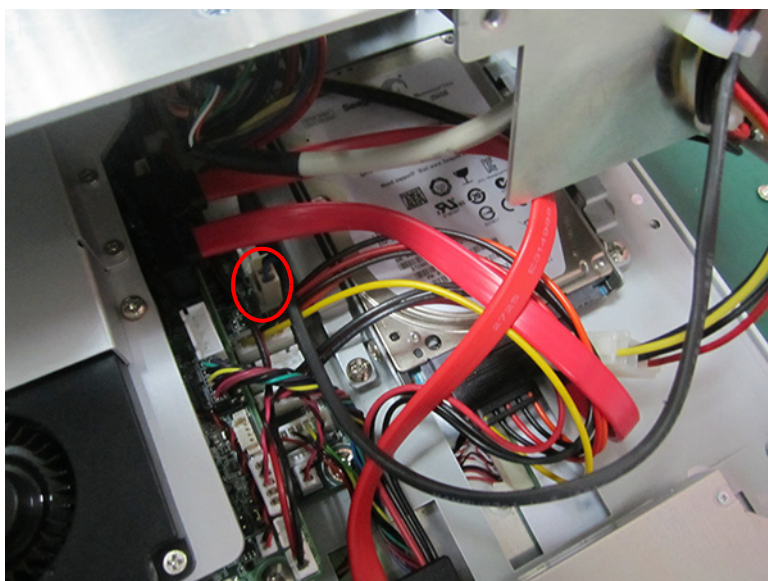

Figure 2.37
7. Lock the reinforced board and connect the fan cable, and check the left system fan cable is connected correctly. (See Fig 2.37)